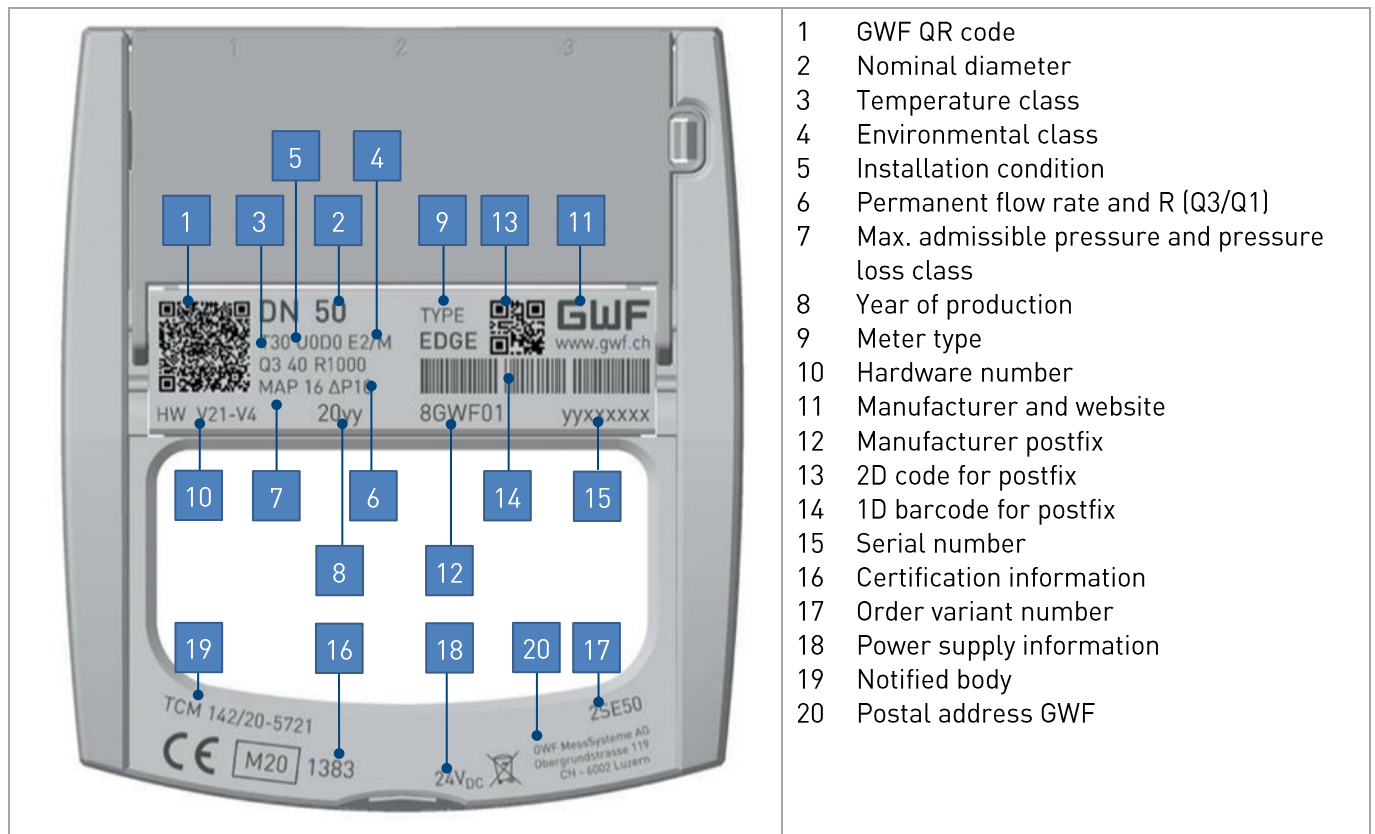

Figure 13: Exemplary name plate (DN50 meter)
The name plate (Figure 13) indicates important data for identification of the device.
- Operating temperature of medium. Depending on meter type: T30 = 0.1 to +30 °C, T50 = 0.1 to +50 °C. Temperature class indicated on the nameplate, see Figure 13.
- Pressure: Please ensure that the meter strictly operates within the pressure rating printed on the nameplate (see Figure 13).